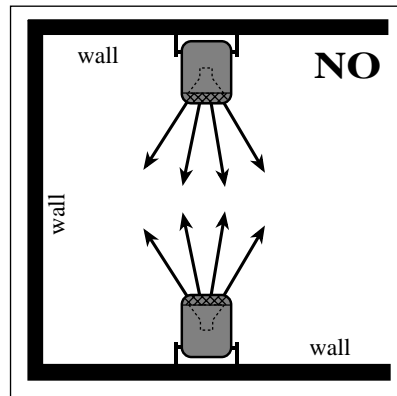

Figure 3 (Top View)
- Avoid placing speakers directly opposite each other or opposite a large reflective surface; stagger them instead (see Figures 3 and 4).